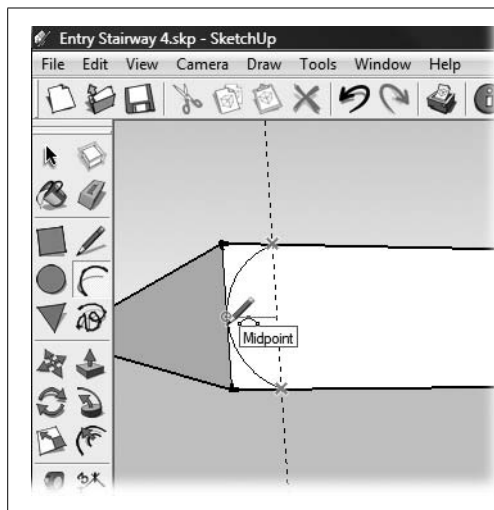

Figure 7-31:
3. Use Orbit (O) and the other view tools to get a good close view of the end of the tread, like the one shown in Figure 7-31.
If you want to be precise, use the Tape Measure (T) tool to add a guide at the half-inch point, as shown in Figure 7-31. Otherwise you can eyeball the distance.